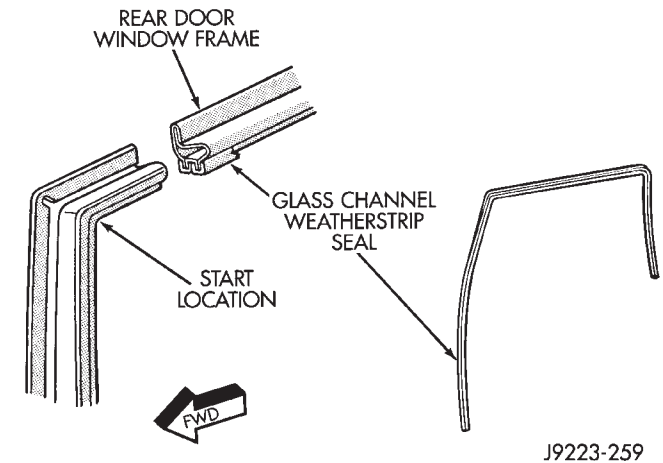

Fig. 103 Rear Door Window Glass Channel Weatherstrip Seal
(2) To install a rear door window glass channel weatherstrip seal, start at the upper, front corner (Fig. 103).